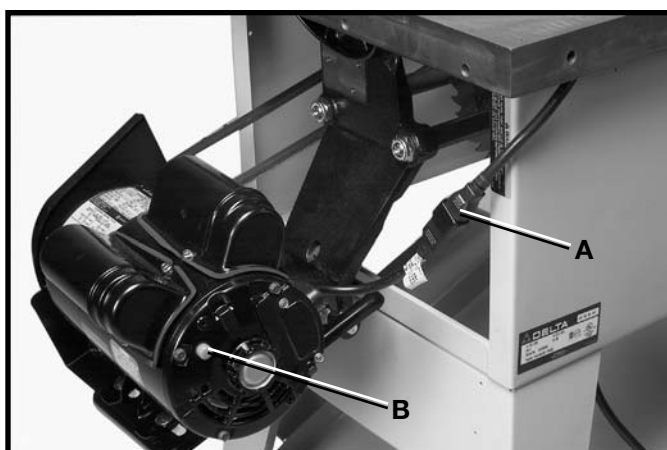

Fig. 24
2. The motor cord connected to the switch assembly is shown at (A) Fig. 24.
The motor for use with your saw is equipped with a reset overload relay button (B) Fig. 24. If the motor shuts off or fails to start due to overloading (cutting stock too fast, using a dull blade, using the saw beyond its capacity, etc.), or low voltage, move the switch to the "OFF" position, let the motor cool three to five minutes and push the reset button (B), which will reset the overload device. The motor can then be turned on again in the usual manner.